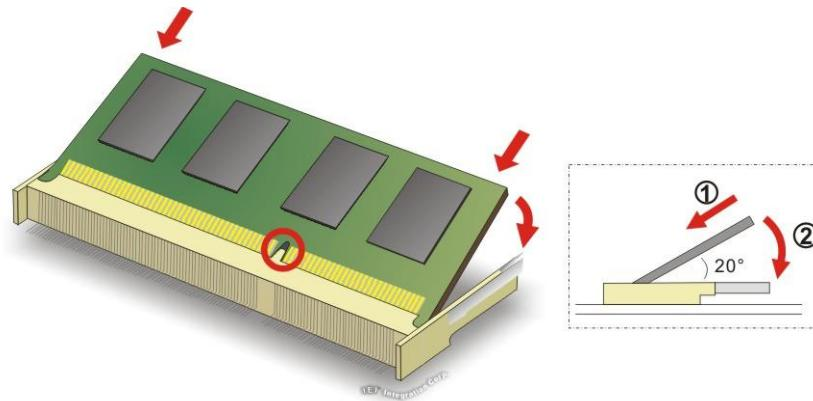

Figure 3-1: SO-DIMM Installation
To install an SO-DIMM, please follow the steps below and refer to **Figure 3-1**.
Step 3: **Insert the SO-DIMM.** Push the memory in at a 20° angle (see **Figure 3-1**).
Step 4: **Seat the SO-DIMM.** Gently push downwards and the arms clip into place (see **Figure 3-1**).